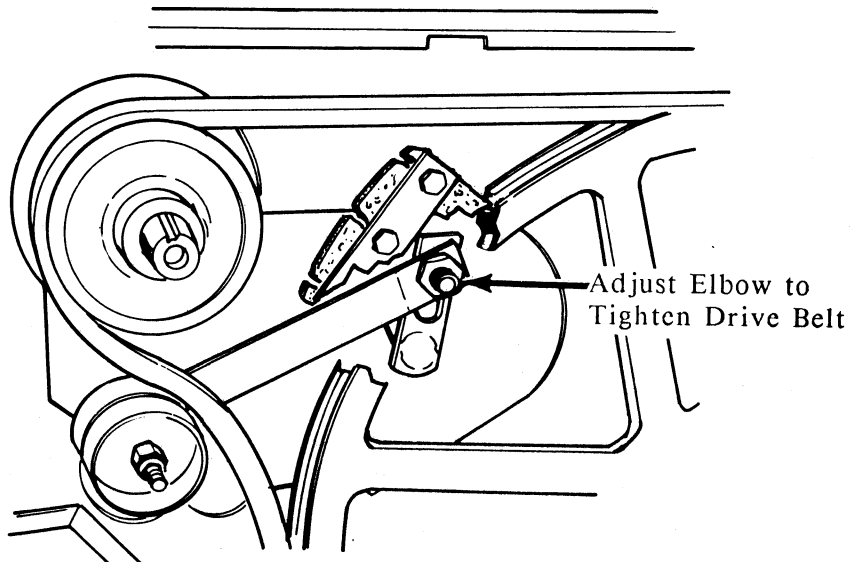

FIGURE 3
- Check for excessive drive belt wear. If belt is too loose, adjust elbow connection of clutch lever linkage using the slotted hole (See Figure 3). Retighten nut and check belt tension. Readjust elbow if necessary.